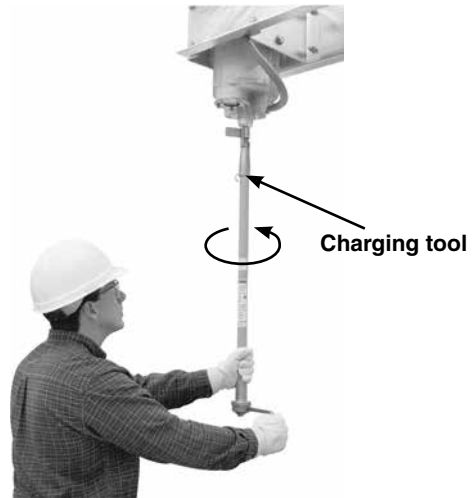

Figure 54. Rotate the tool handle counterclockwise until the internal stop is reached.
- b. Rotate the charging tool handle *counterclockwise*, as indicated on the tool, to close and charge the pole-unit. See Figure 54. Approximately 40 revolutions are needed. Keep turning until the internal stop is reached. The torque limiter will slip after this point. The charging tool cannot be removed until this step has been completed, so **DO NOT** attempt to remove the tool at this time.